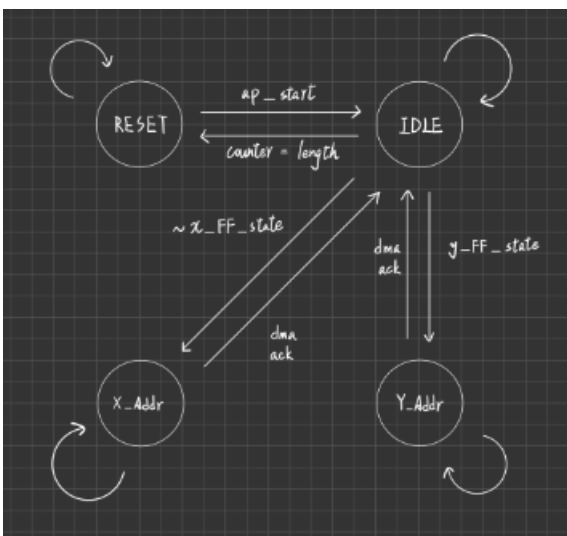

Figure. 4. FSM of DMA
(4) DMA
Our DMA design is straightforward. Inside, we have two buffers for evaluation (X_FF for input and Y_FF for output). When X_FF is empty, it enters the X_addr state, issuing a wishbone (WB) with wb_addr as the address of X to read data from SDRAM. When Y_FF is full, it enters the Y_addr state, issuing a WB (with wb_addr as the address of Y and wb_we set to 1) to write data into SDRAM. Figure 4 illustrates the Finite State Machine (FSM) for the DMA.